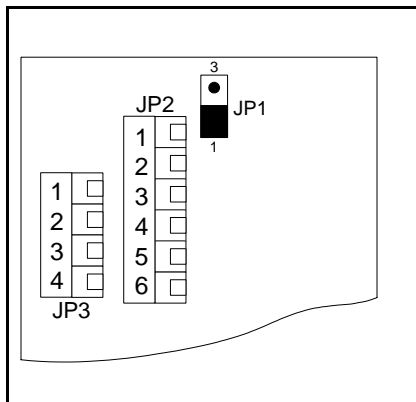

Fig. 8.2 JP1- Memory clear
In the event that it is necessary to clear data memory in the KSU-II, use jumper JP1 to clear that memory. (Fig.8.2)
7. Remove the jumper from the clearing position (2-3) and place in the (1-2) position for storage as shown in figure 8.2.